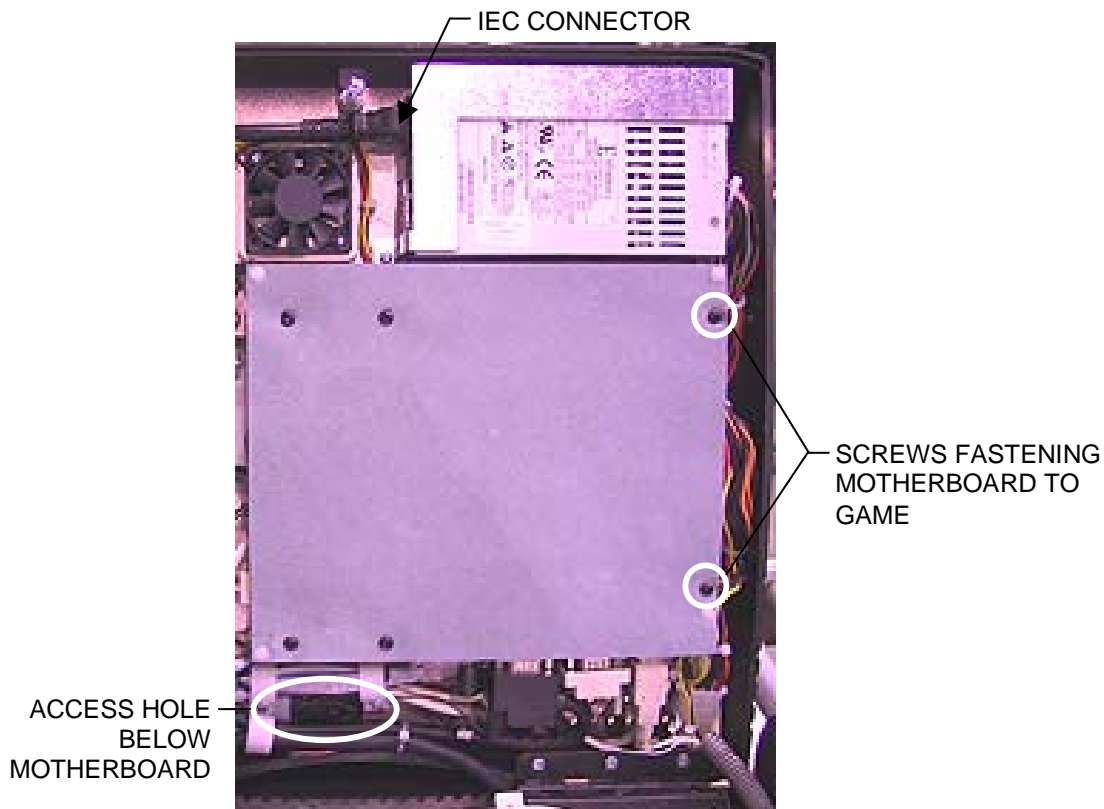

FIGURE 1 - SCREWS SECURING MOTHERBOARD ASSEMBLY TO GAME
3. Disconnect the LED power connector behind the CPU section (see Figure 3) and carefully route the wires back through the access hole below the motherboard (see Figure 1).
6. Unplug the IEC connector from the power supply (see Figure 1).
9. Remove the 2 screws on the right side of the motherboard (see Figure 1) and carefully pull the motherboard forward after sliding it out of the clips on the left side of the board.
6. Replace the motherboard by sliding it into the clamps on the left side of the game and lining up the two screw holes on the right side of the board with the two standoffs in the game. Then replace the 2 screws that fasten the board to the game (see Figure 1). Make sure no wires are pinched after the motherboard is in place.
8. Reconnect the IEC connector to the power supply (see Figure 1).
11. **EVO ONLY:** Route the LED power connector through the access hole below the motherboard (see Figure 1).